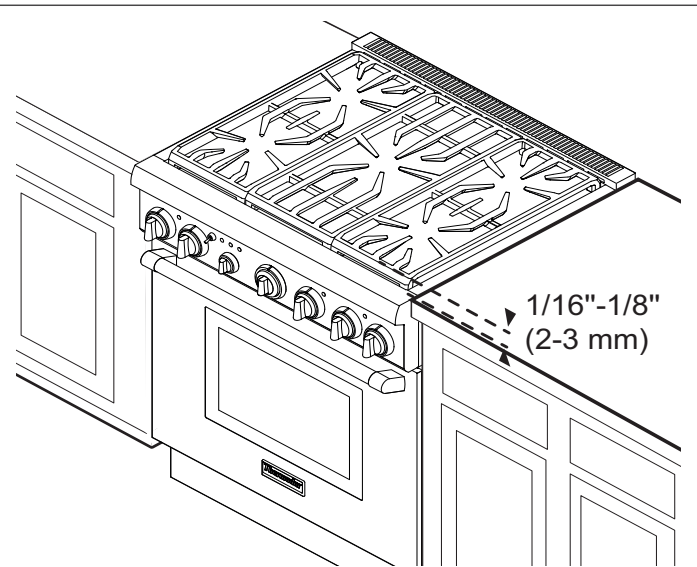

Figure 25: Adjusting the Height of the Range
The top edges of the range's side panels must be on the same or higher level as the adjacent countertop. **DO NOT** operate range if sides are lower than the adjacent cabinet. If the range is operated while at a lower height relative to the adjacent cabinet, the cabinet could be exposed to excessive temperatures, causing damage to the cabinet and countertop (see *Figure 25*).
- Measure the countertop heights first with a tape measure and add an additional 1/16" - 1/8" (2-3 mm). Leveling legs should be adjusted so that the range sides are at the same or higher level as the adjacent cabinet. Adjust the legs accordingly prior to pushing the range back to its final location (see *Figure 25*).